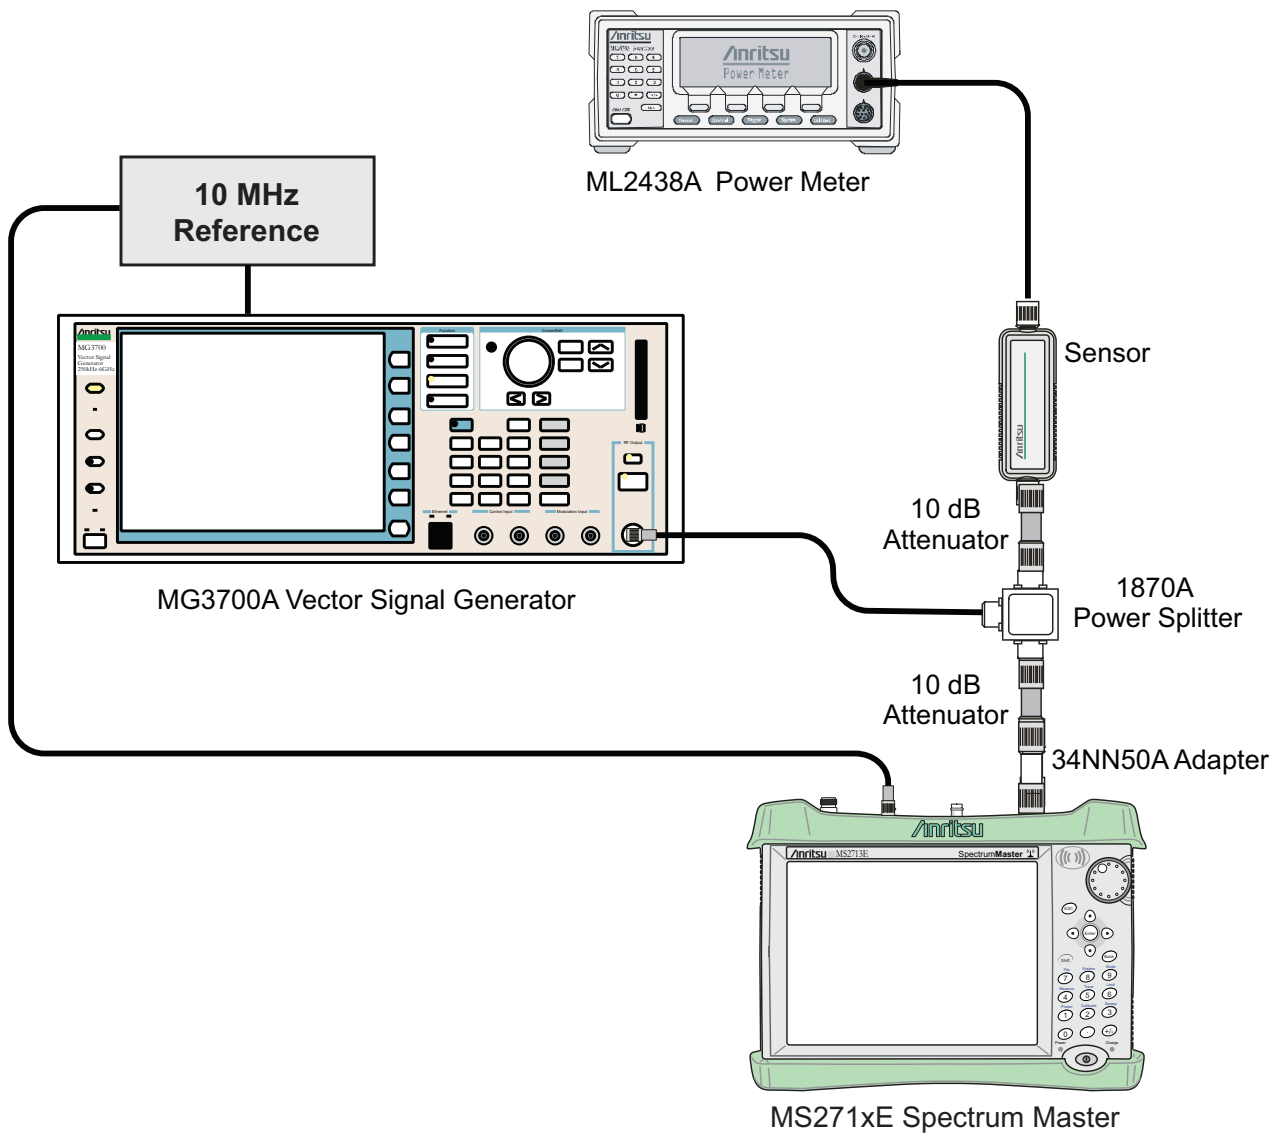

Figure 3-12. WCDMA Occupied Bandwidth (OBW) Verification
3. Connect the MG3700A, splitter, attenuator, power meter, and Sensor as shown in Figure 3-12.
4. Press the **On/Off** key to turn On the MS271xE and wait until the measurement display appears. Then press the **Shift** key, then press the **Mode** (9) key to activate the mode selection menu.
6. Press the **Shift** key, the **Preset** (1) key, and then the Preset submenu key.
3. Connect the MG3700A, splitter, attenuator, power meter, and Sensor according to Figure 3-12.